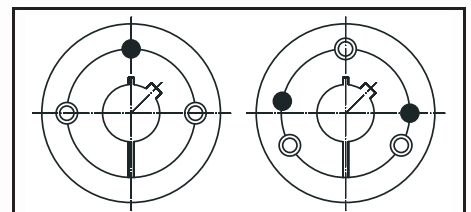

Fig.1
2. Insert the taper bush into the element hub and line up all connecting bores. Make sure that half threaded holes coincide with half plain bores (Fig. 1).